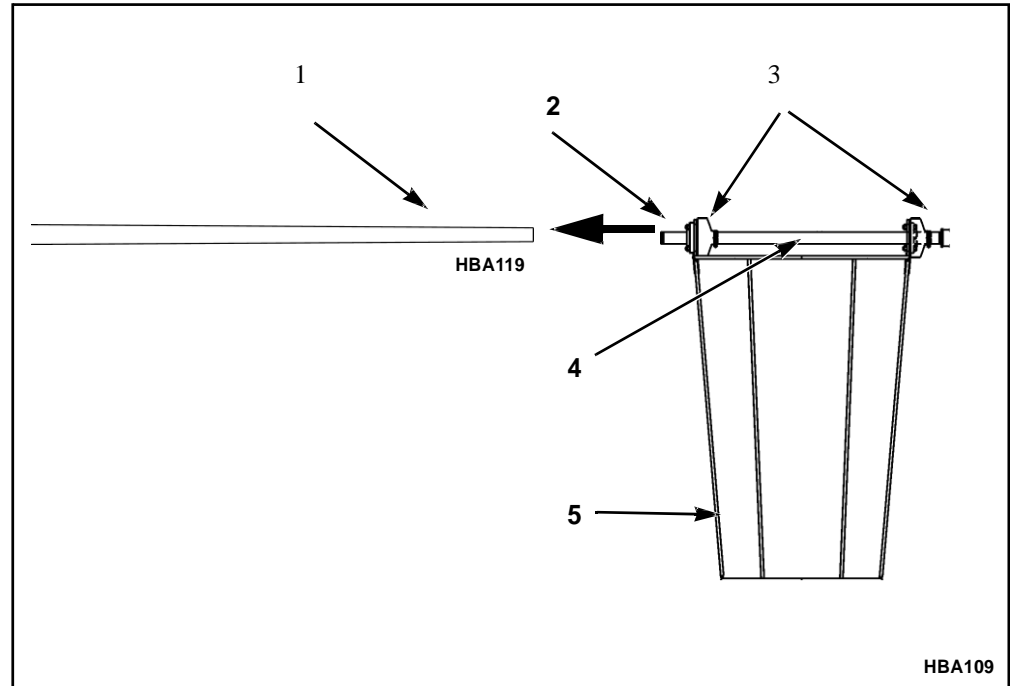

Figure 10. Positioning the Basket
2. Rotate the basket so the rain caps are pointed away from the pole, see Figure 10.
3. Apply anti-locking compound to the threads of basket support pipe, see Figure 10.